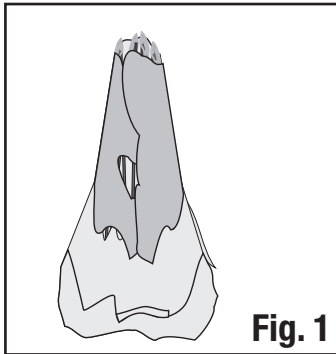

Fig. 1
- Take out the shelter and place it on the floor. (Fig. 1)